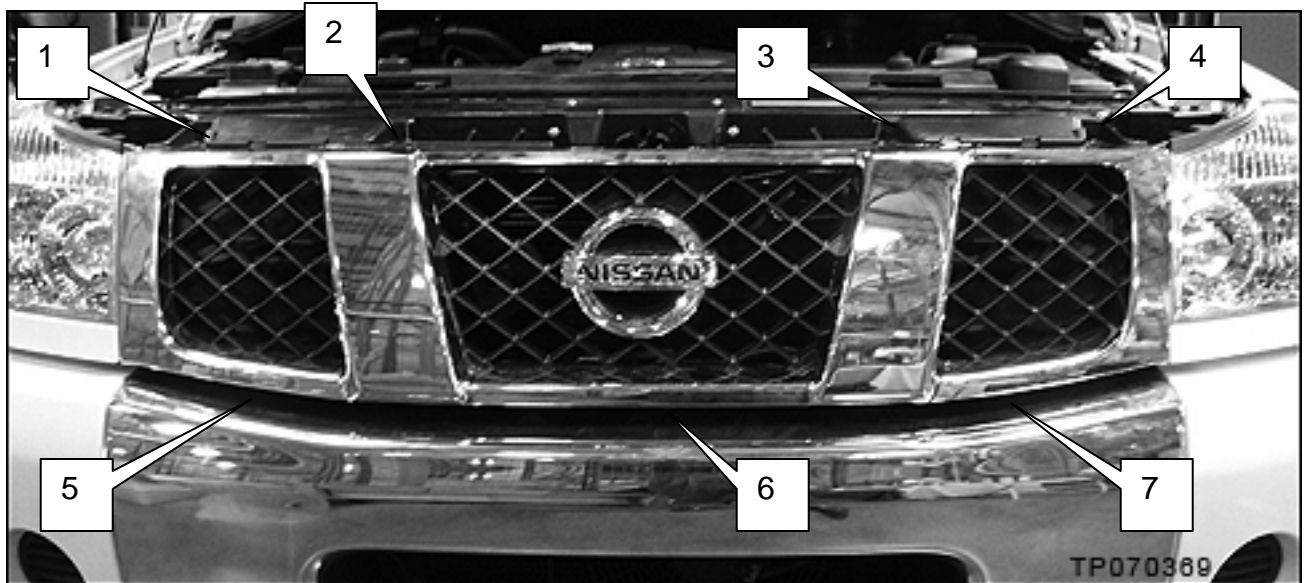

Figure C-1
- a. Use a long screwdriver to twist and release 7 clips shown in Figure C-1.